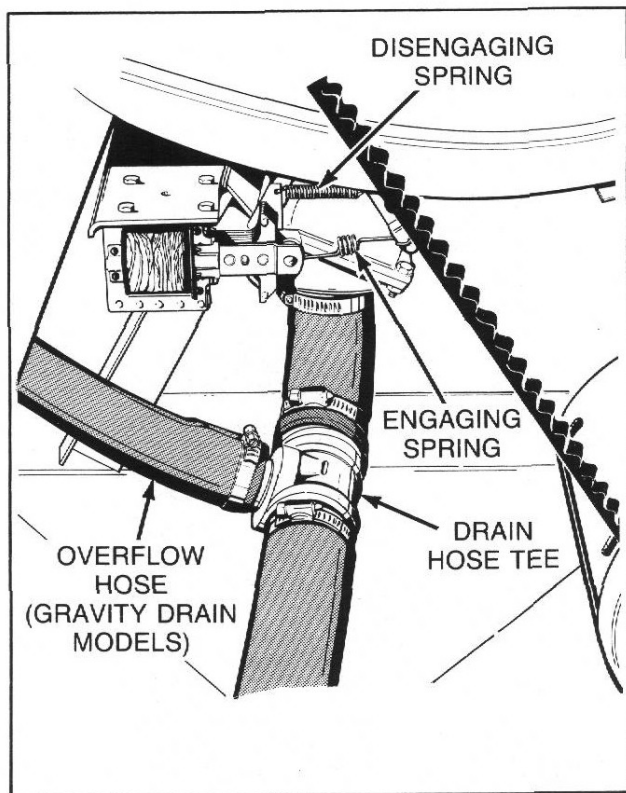

Figure 25
- Gravity Drain Models: Disconnect overflow hose from drain hose tee, *Figure 25*.